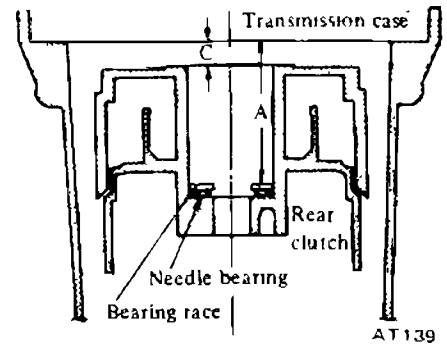

Fig. AT-75 Measuring the distance "A" and "C"
(1) Measure the distance "A" and "C" by vernier calipers as shown in Figure AT-75